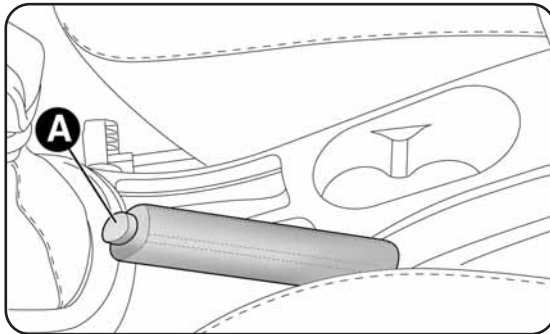

fig. 1
- slightly lift the handbrake and press release button A-fig. 1;